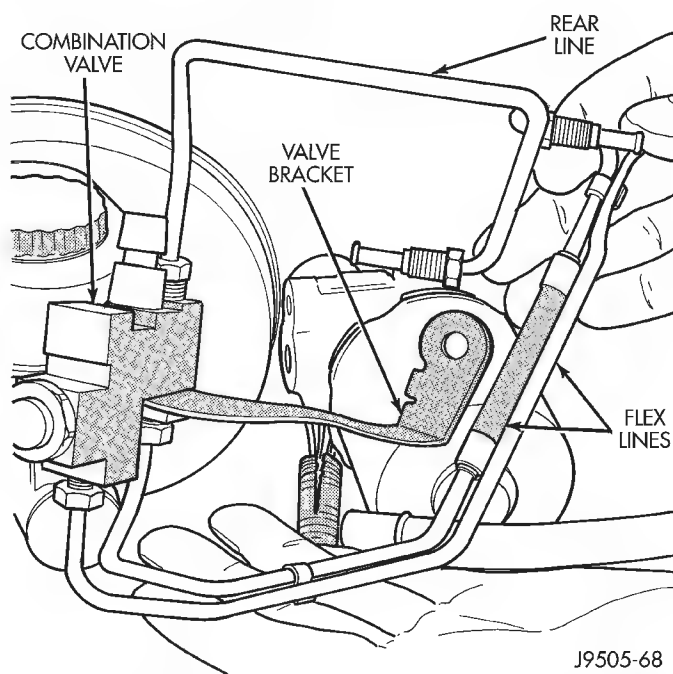

Fig. 11 Combination Valve And Brakeline Removal
(15) Remove nut attaching combination valve bracket to brake booster stud.
(16) Remove combination valve and brakelines as assembly (Fig. 11). Work valve bracket off booster stud. Then work brakelines around cylinder and HCU and remove assembly.